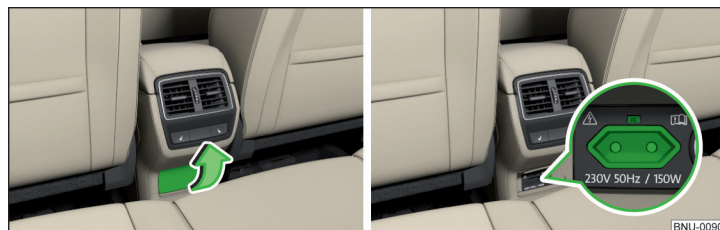

Fig. 129 Open the cover of the 230 volt outlet / 230 volt outlet
- ▶ To use, fold up the cover of the socket in the direction of arrow » Fig. 129 and plug the electrical appliance plug into the socket.